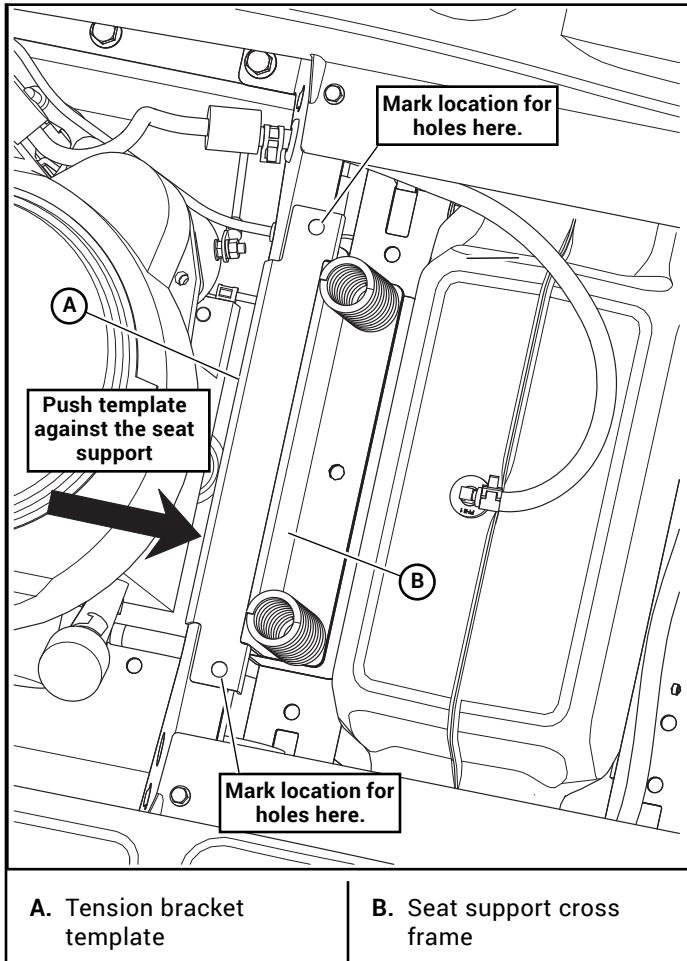

Figure 3-13
18. Push the tension bracket template against the back of the seat support cross frame. Mark the location for the holes to be drilled. Discard the template. Figure 3-13
- 19.** Drill two 0.406 inch holes in the seat support cross frame. Figure 3-13